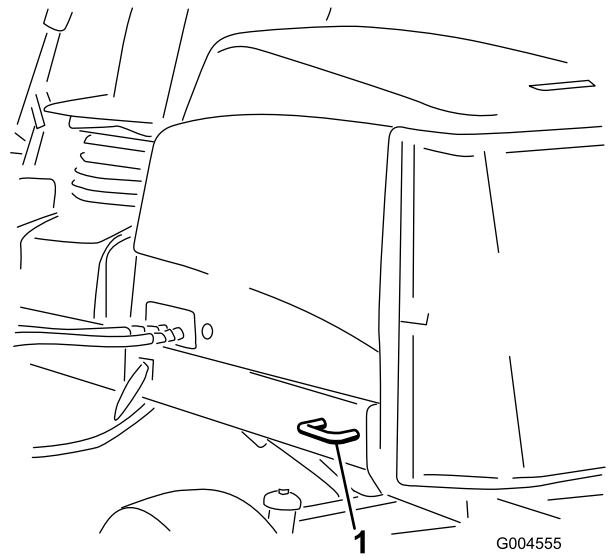

Figure 56
- **Rear of the machine**—each side of the machine on the rear frame (Figure 56).